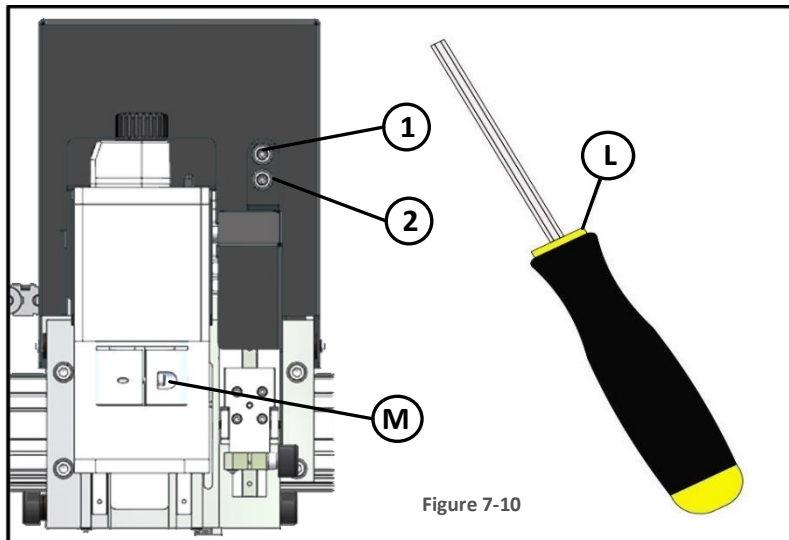
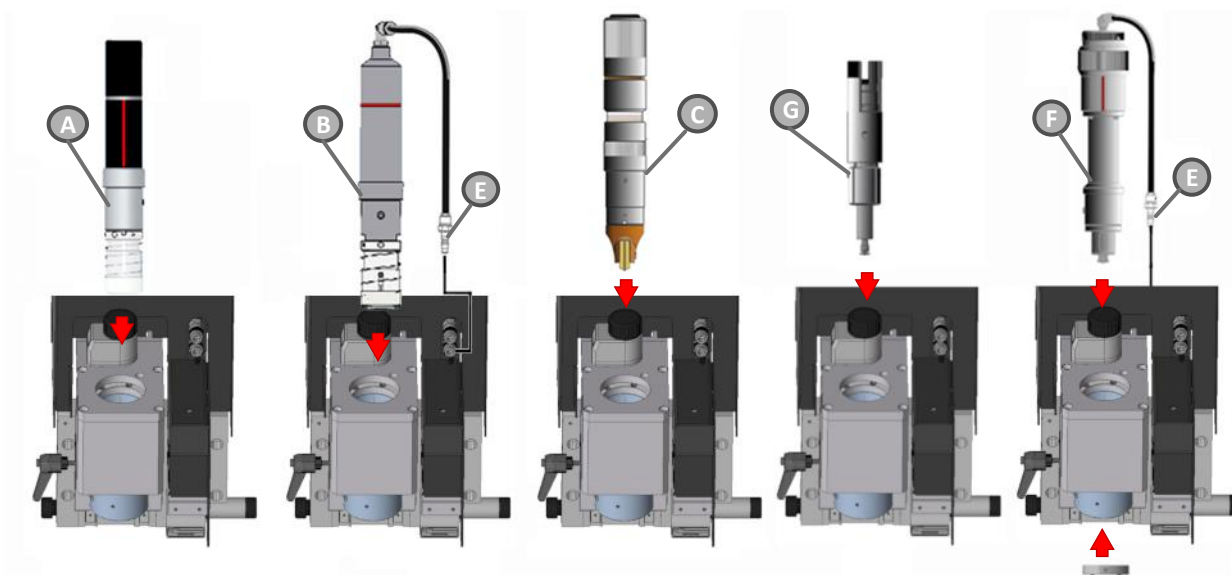

Figure 7-10
Figure 7-11
If required, connect the tool's air fitting (E) Figure 7-11 on relative connector (1 or 2) next to the head Figure 7-10, as shown in the table below.